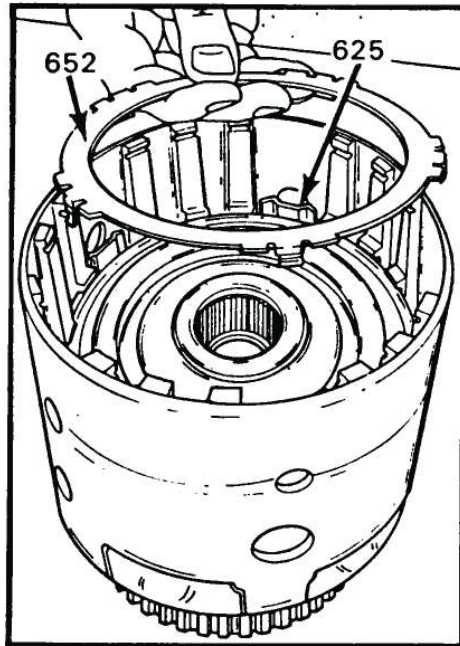

Figure 108
1. Install the 3-4 clutch retainer ring, as shown in Figure 108. Be sure that each tab on the retainer is snapped over the outside of the legs of the apply ring. This retainer ring is used to keep the legs of the apply ring from spreading under load.